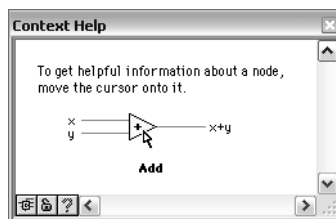

Figure 2-2. Context Help Window
1. Select **Help»Show Context Help** from the front panel window or block diagram window to display the **Context Help** window, shown in Figure 2-2. You also can click the **Show Context Help Window** button, shown at left, on the front panel or block diagram toolbar to display the **Context Help** window.